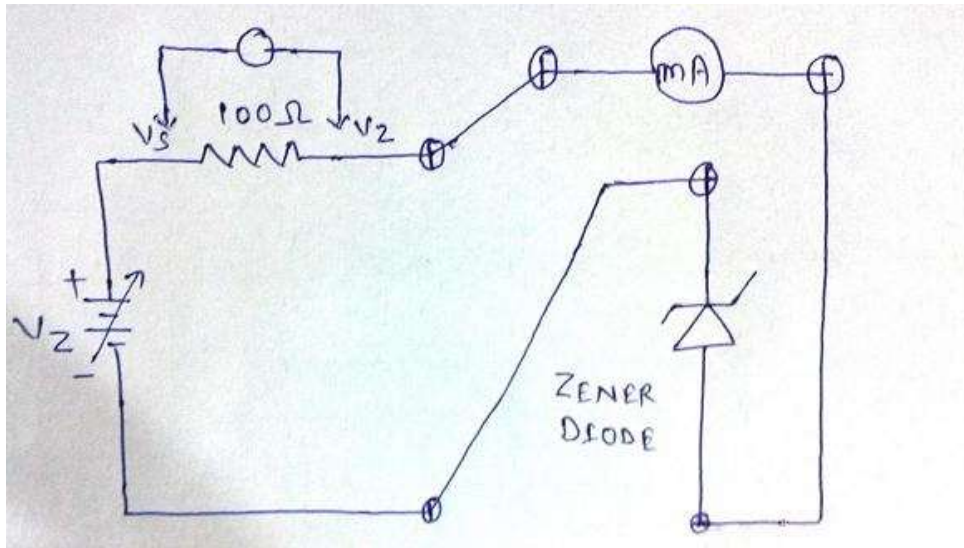

Fig.1b. Connection diagram forward biased zener diode. Range 1V.
1. Connect the given diode as shown in fig.1b. Identify the voltage polarity meter and diode's polarity. Select voltmeter range to 1V. Select mode switch towards V_Z mode.